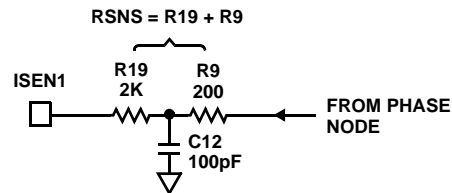

FIGURE 5. NOISE FILTER FOR ISEN1 INPUT
2. A 'T' filter consisting of a 'split' RSNS and a small, 100pF, capacitor as shown in Figure 5, may be helpful in reducing noise coupling into the ISEN input. For example, if the calculated value of RSNS1 is 2.2K Ω , dividing it as shown with a 100pF capacitor provides filtering without changing the current limit set point. For any calculated value of RSNS, keep the value of the R9 portion to approximately 200 Ω , and the remainder of the resistance in the R19 position. The 200 Ω resistor and 100pF capacitor provide effective filtering for noise above 8MHz.